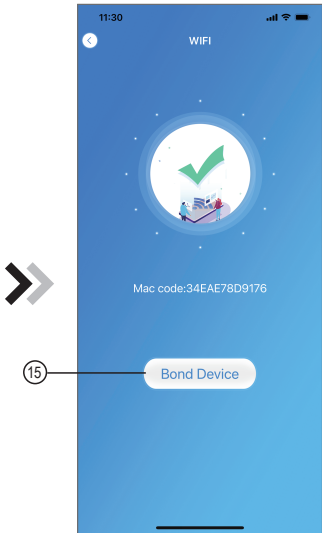

Fig.16 Bond device interface
- 7. Click ⑮ to bond device (Fig.16);